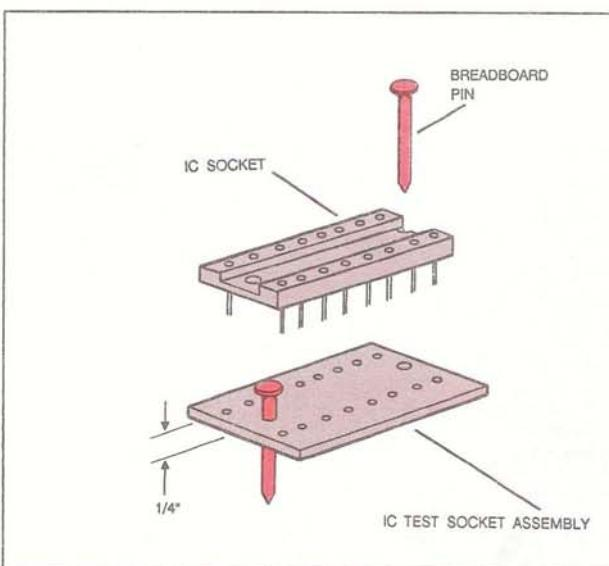

FIG. 45
7. Mount the IC test socket assembly on the breadboard, as depicted in Fig. 45. DO NOT mount the IC in the socket at this time.